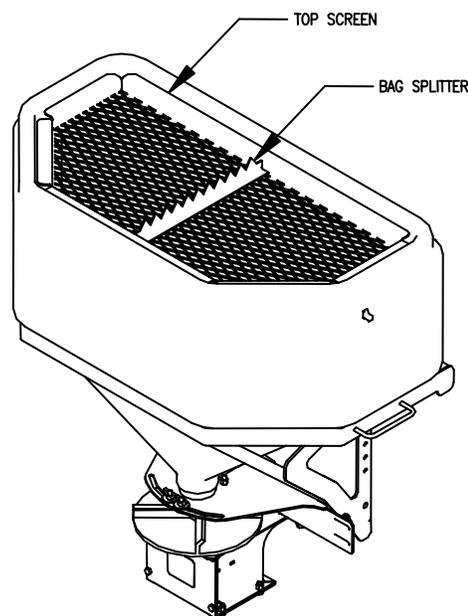

Figure 13.
2. Refer to Figure 13. If using bagged salt, place bag onto Top Screen Bag Splitter. Work bag back and forth on teeth of splitter until the bag has split open. Continue to manipulate and shake bag until empty.